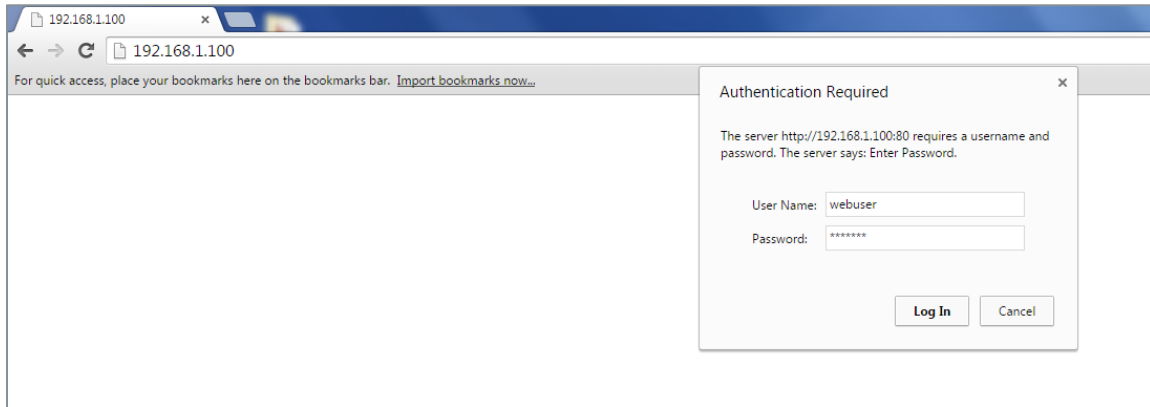

Figure 3-1: User Connection Login
You may access the repeater using a LAN connection and a web browser program such as Internet Explorer, Figure 3-1.
3. When connection is made, you will be prompted for a user name and password. For the purpose of the GUI session, enter the default user name **webuser** and the password is **csi1234**, shown in Figure 3-1. Username and password can be changed as required.